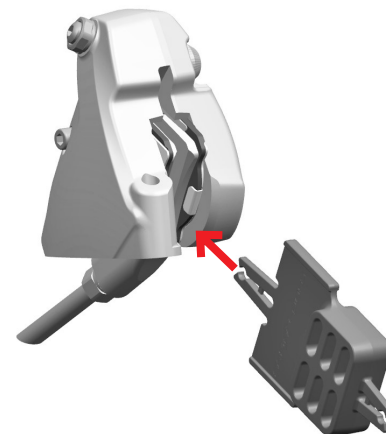
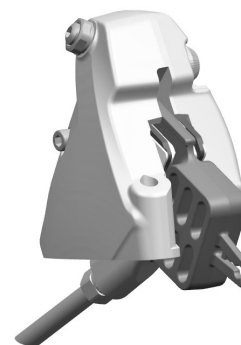

Fig.16
Fig.17
• If you need to remove the wheels from the bike, ensure that you have inserted the transport tool (Fig. 16 / Fig. 17) which prevents the brake pads from coming together if the brake lever is accidentally engaged, making it impossible to insert the disc.